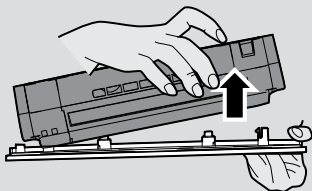

Fig. 15
1. Remove mop pad holder and mop pad from water tank. [Fig. 15,16]